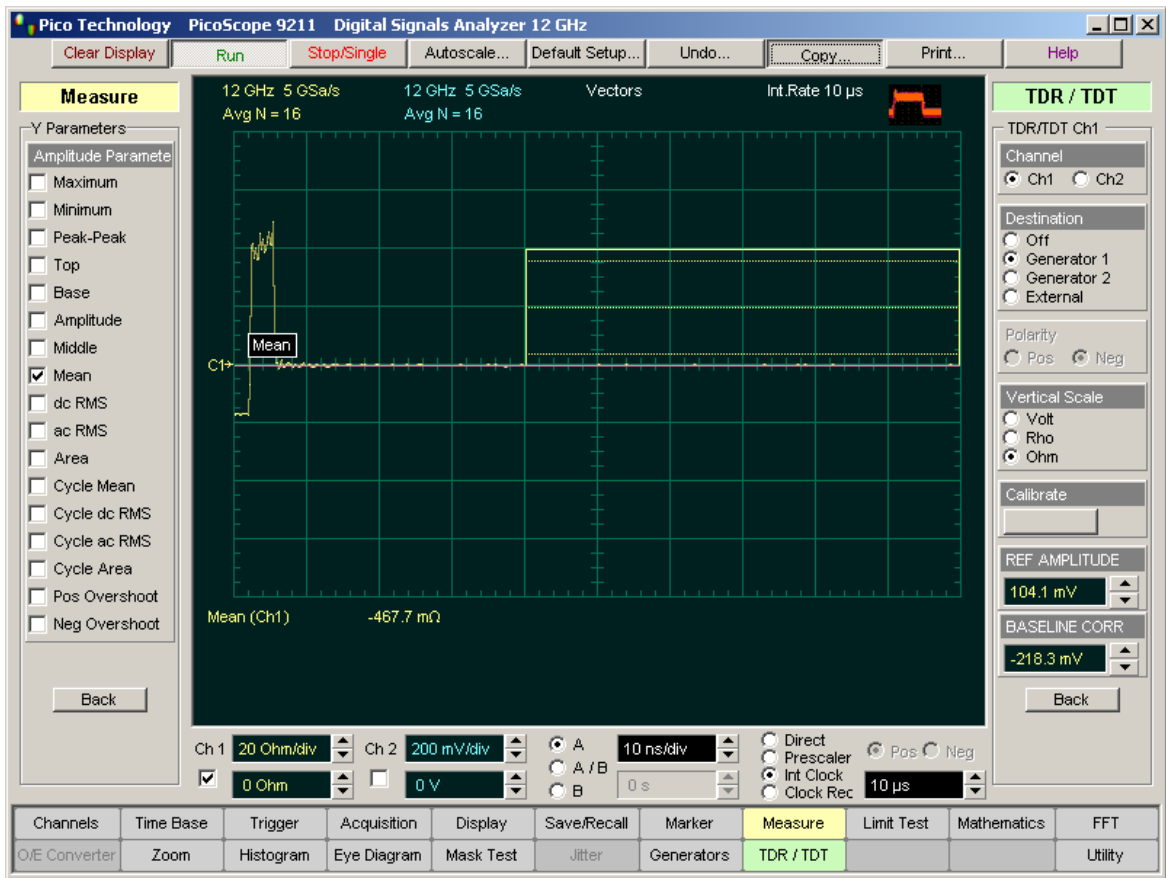

Figure 5
6. Click **Ohm** in the **Vertical Scale** menu. See Figure 5.
Fig. 5 shows that the ohm value is near 0 ohms when transmission line is shorted. The **Mean** measurement shows -467.7 mohm.